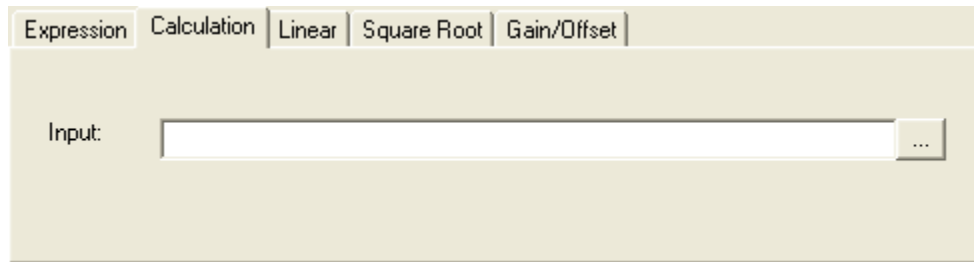

Figure 52 - Calculation Tab
5. Select the **Calculation** tab (Figure 52).